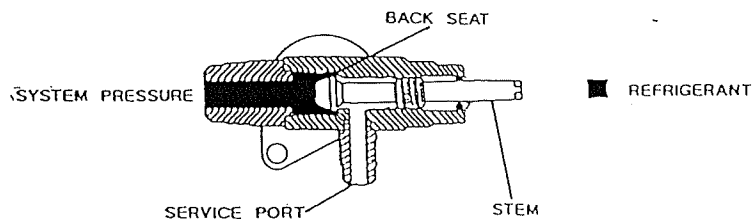

FIG.3
3. During normal operation the stem must be turned completely out (counter clockwise) against the back seat. (FIG.3)